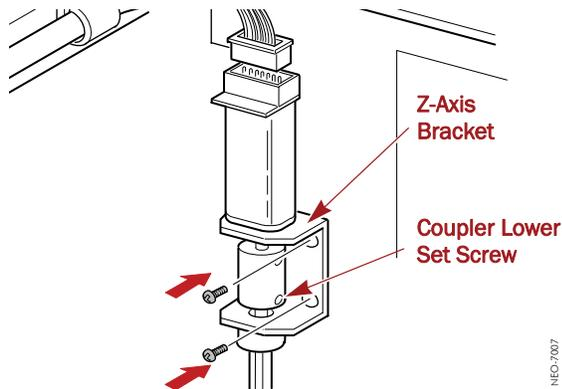

Figure 7. Install the New Bracket Screws
2. Align the **Z-Axis bracket** over the screw holes on the front bulkhead and secure it using **two new M3x6mm screws** (Figure 7).